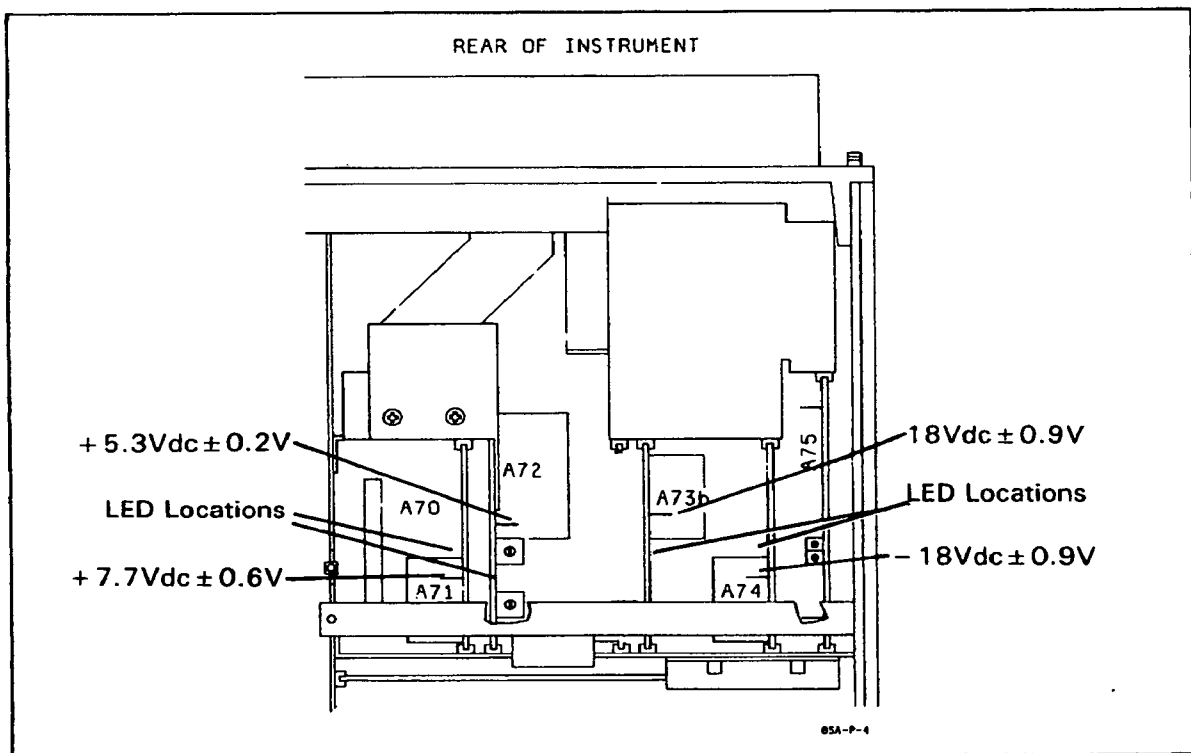

Figure 11-P-4. Power Supply Voltage Indicators And Test Points
- D. Are the four green LED's on Power Supply boards A71-74 lit (Figure 11-P-4) and the yellow LED's off.**
1. If the green LED's are on and the yellow LED's off then go to step C. Note that the Power Supply voltages can be incorrect even when the green LED's are on; therefore, if there is a question about one of the Power Supplies check them against those in Figure 11-P-4.